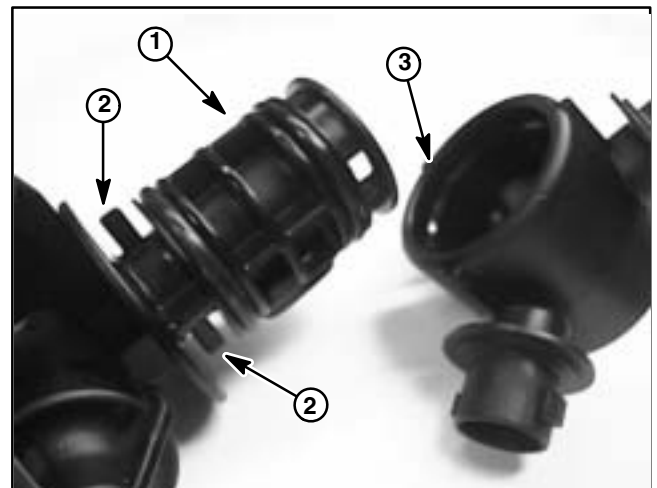

Figure 38
- A. The turret (item 8) end with slightly larger bore and detent grooves needs to be orientated toward detent posts on body (item 4) (Fig. 38).
- B. Make sure to align notch on plug (item 10) with groove in body (item 4) as plug is installed.
- C. Install e-clip (item 5) into body to secure assembly.